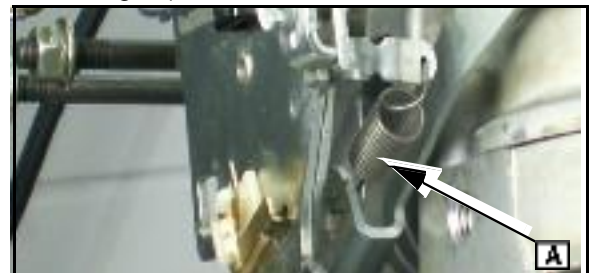

Fig. 26
5. Connect governor return spring ([A] Fig. 26).